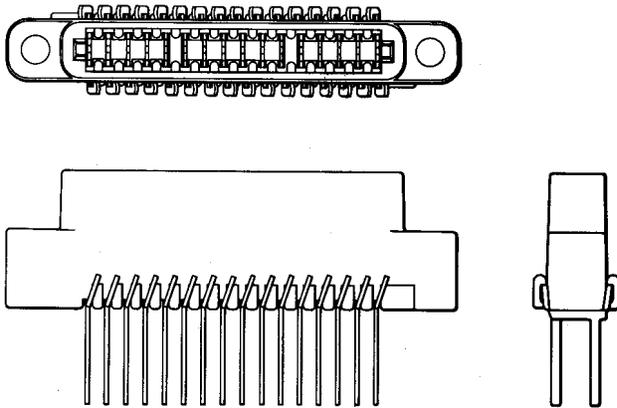

Fig. 1—901A Connector
2.01 **901A:** The 901A connector (Fig. 1) consists of a molded block of insulating material containing 16 terminals. The terminals are arranged for mechanically wrapped connections. This connector is designed to mate with the 501A plug and is used in the J99253, E6 repeater.